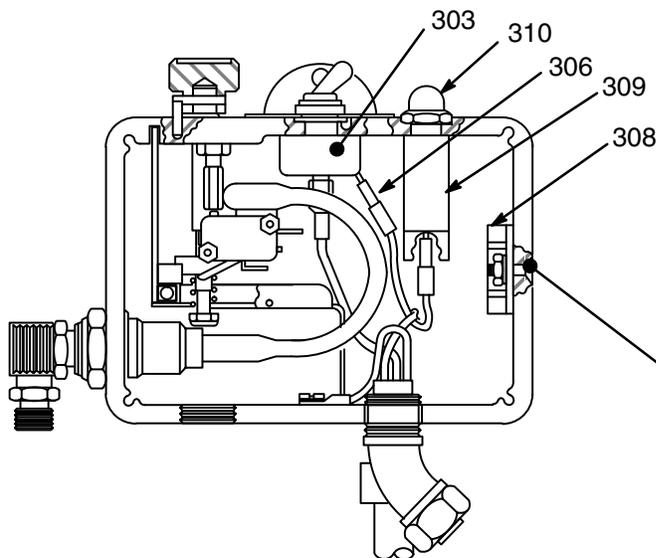

Fig 23-1
The lockwashers (333) must be in front of the bridge to avoid overheating which will result in bridge failure. See the DETAIL in Fig 23-1.
See Fig 23-1.